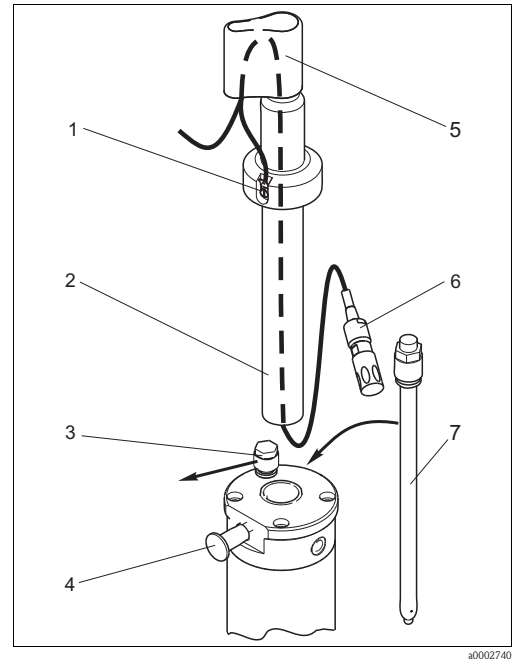

Fig. 22: Sensor installation
1. Remove the splash protection cap (→ Fig. 22, pos. 5) from the assembly.
2. Then loosen the retractable pipe (pos. 2) by turning it anticlockwise.
3. Install the sensor (pos. 7) instead of the dummy plug (pos. 3):
4. Insert the measuring cable through the retractable pipe (pos. 2):